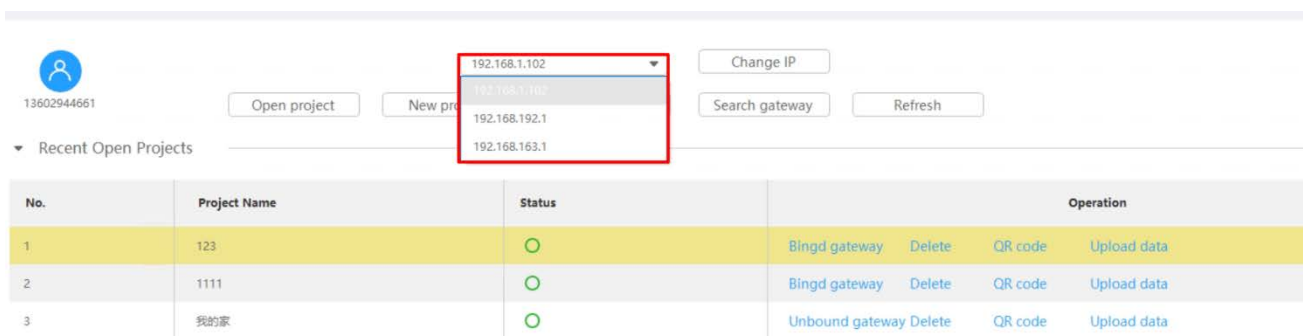

Figure 2-2 Select Gateway IP
3. As shown in Figure 2-2, select the gateway IP, which should be the same as the host IP. After that, click “Change IP” to re-confirm; if there is only one IP (i.e., the host IP), you do not need to proceed “Change IP”.